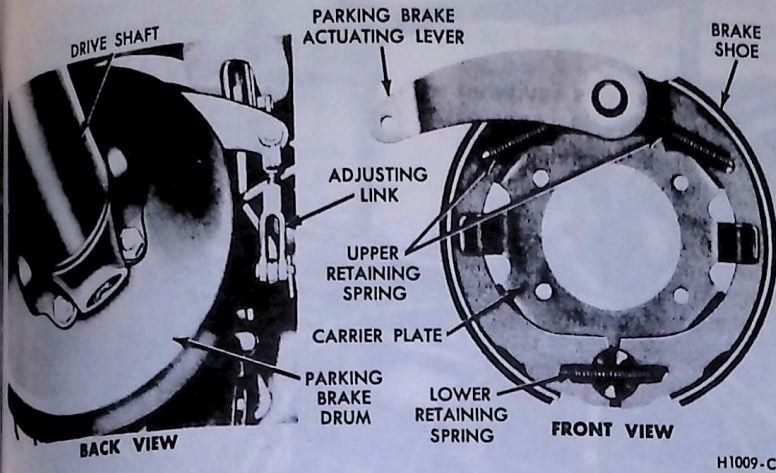

FIG. 130 Transmission Mounted Internal Shoe Type Parking Brake—9 Inch
2. From under the truck, remove the cotter pin from the parking brake linkage adjusting clevis pin (Fig. 130). Remove the clevis pin.